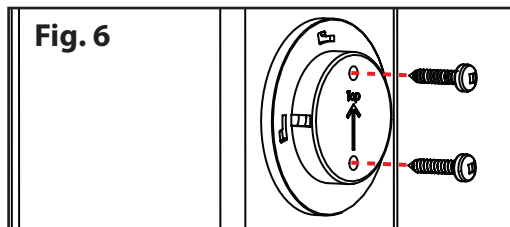

Fig. 6
8. Attach the Sconce Light back plate to the post using two #8 x 1.5" screws provided (take extra precaution to avoid wire when inserting screws). **Fig. 6**